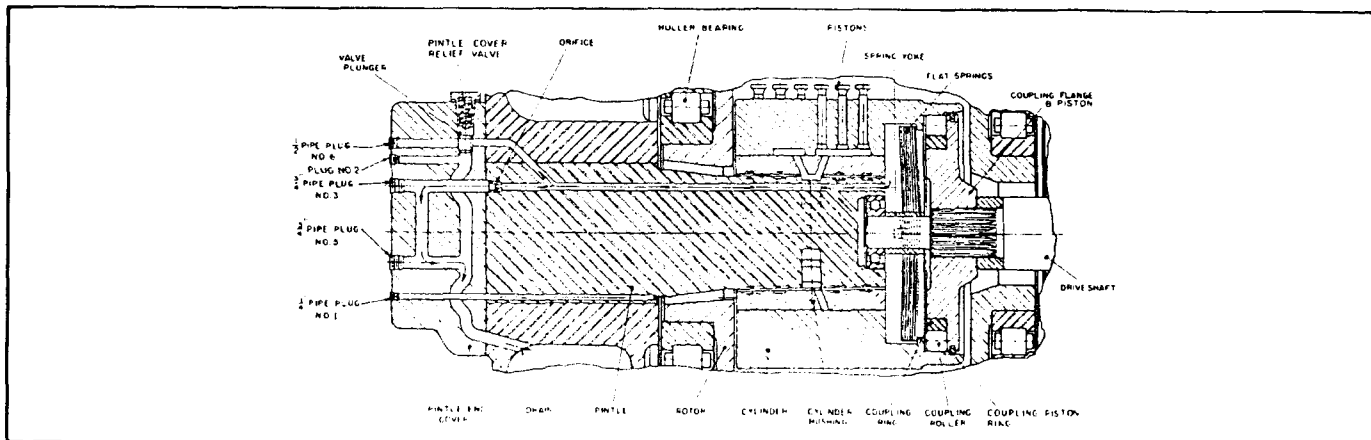

Figure 6. Cylinder Clearance Control. DS-947026-B (49215). See figure 11 for plug locations.
B. CYLINDER CLEARANCE CONTROL (Size 100 and larger) Refer to figure 6.